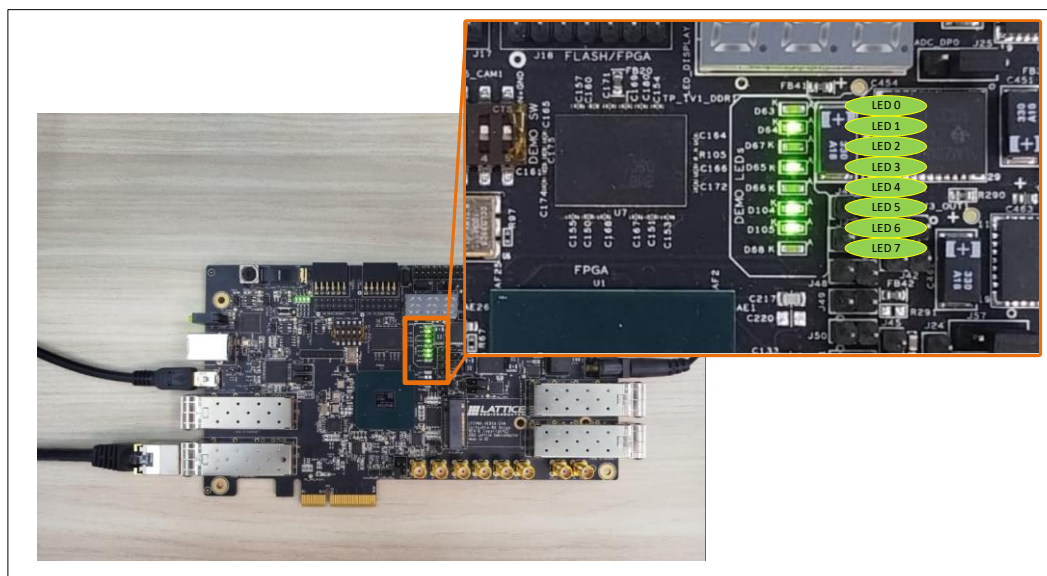

Figure 8.2. Position of the LED on CPNX Versa Evaluation Board
3. After powering up, check the status LEDs on the evaluation board. Refer to Figure 8.2 or LED locations. These LEDs indicate the board operational status. Table 8.1 explains each LED behavior and meaning.